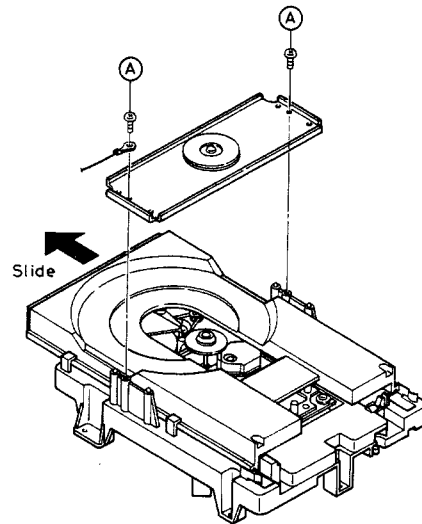

Figure 7
2. Remove two screws (A) holding the clamber base. (See Figure 7)